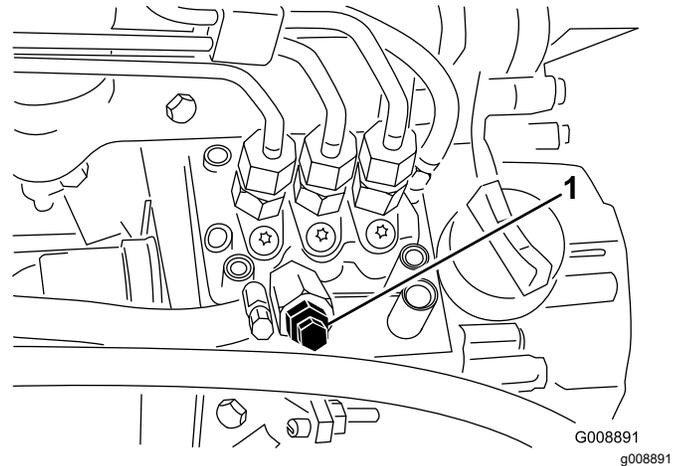

Figure 86
4. Open the air-bleed screw on the fuel-injection pump (Figure 86).